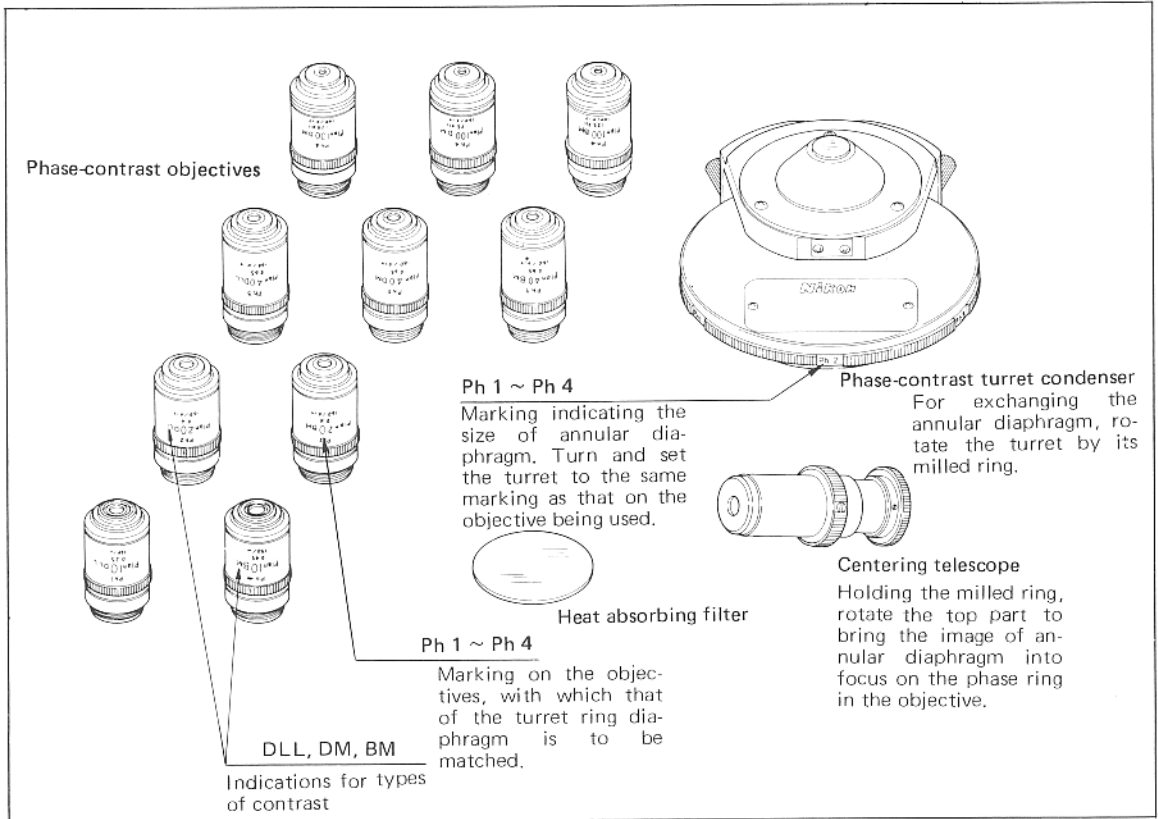

Fig. 26
1) Nomenclature (Refer to Fig. 26)